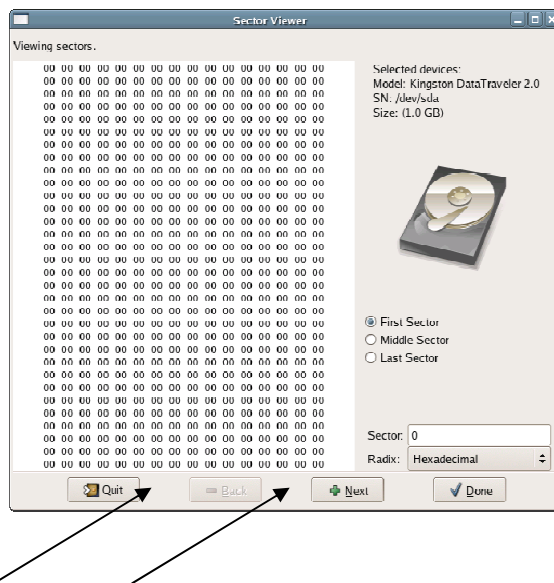

Figure 6: Location of Next and Done button on Sector Viewer
5.3 Use the “Next” or “Back” button to go to the next sector. You can also enter the sector number in the “Sector” input window. The sectors can also be viewed using the scroll bar on the right hand side of the pop-up window. Figure 6 shows the location of these buttons.